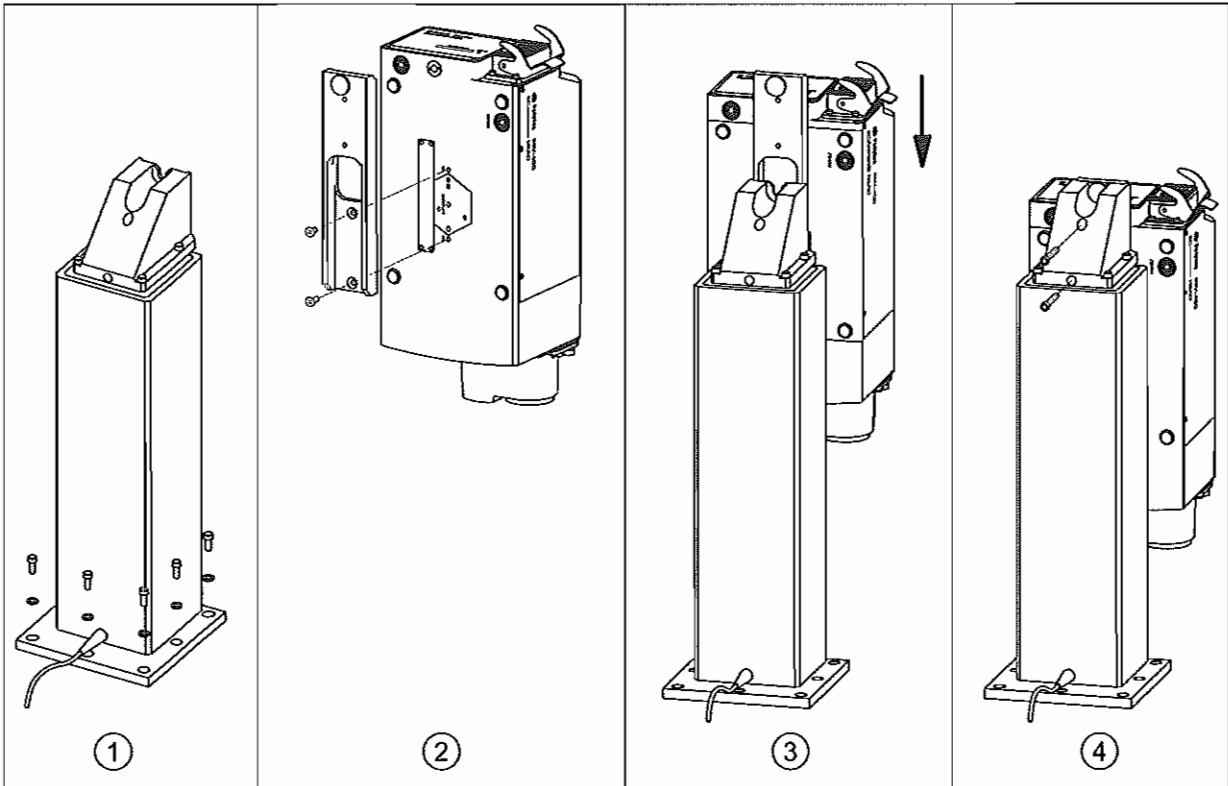

Figure A.12: Mounting the scanning head to the telescope drive of the vertical test stand
1. Fix the telescope drive at the measurement location using 7 screws of the assembly kit (refer to FIGURE A.12, picture 1).
3. Attach the adapter plate on the underside of the scanning head as shown in FIGURE A.12, picture 2.
4. Hang up the scanning head with the adapter plate above at the telescope drive (refer to FIGURE A.12, picture 3).
5. Secure the scanning head by fixing the adapter plate to the telescope drive using 2 Allen screws (refer to FIGURE A.12, picture 4).